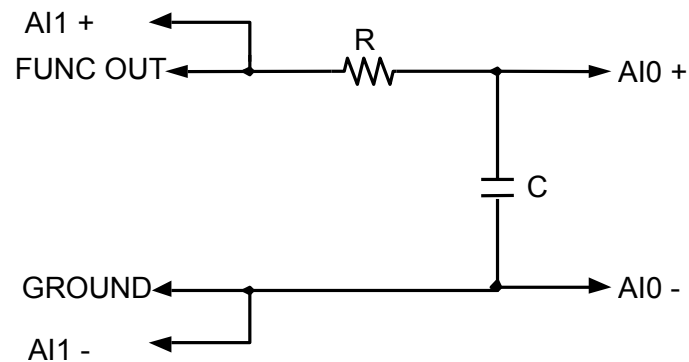

Fig. 11: RC Filter connectivity for AC Characterization.
2. Connect the RC filter circuit on the proto board as shown in figure 11. The input signal for the filter is obtained between 'FUNC OUT' & 'GROUND' pins. The input signal is also connected to Analog Channel-0 (between AI1+/AI1-) and the output signal across the capacitor is connected to Analog Channel-1 (AI0+/AI0-). Connections on the Analog Channels 0 and 1 are used for oscilloscope SFP as further explained in the below steps.
1. Retain the circuit configuration from the previous section. Note that the circuit should be setup as shown in figure 11.